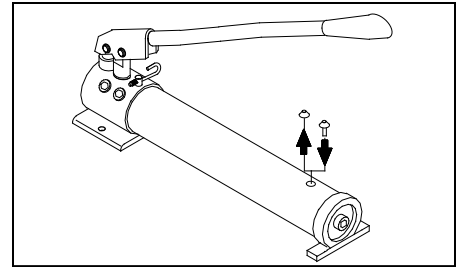

Figure 3 - Remove shipping plug and replace with air vent plug before initial use.
- Remove shipping plug and replace with air vent plug (Fig. 3).